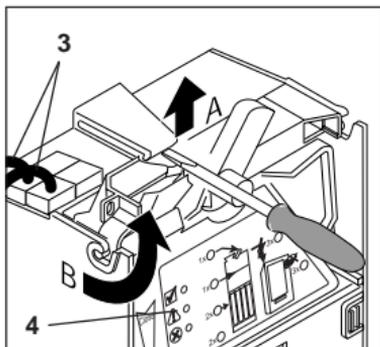
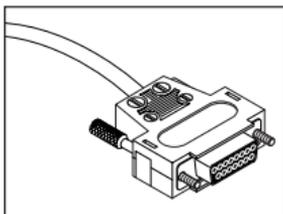

Fig. 4c: Removing the coin validator
Fig. 4d: Plug for display
- 3 Pull out the coin validator (see Fig. 4c).
- 6 Connect the changer to the vending machine using the proper connecting cable **3** (see Fig. 4c) and also connect any external devices, such as the display (see Fig. 4d) or bill validator, to the changer.
- 8 Reconnect the vending machine to the mains supply. The three LEDs **4** on the coin validator light up briefly to test their function. Afterwards, the green LED lights up. The changer is operational (see Fig. 4c).
- 1 Remove the coin validator and pull off the connecting cable (see Fig. 4c).